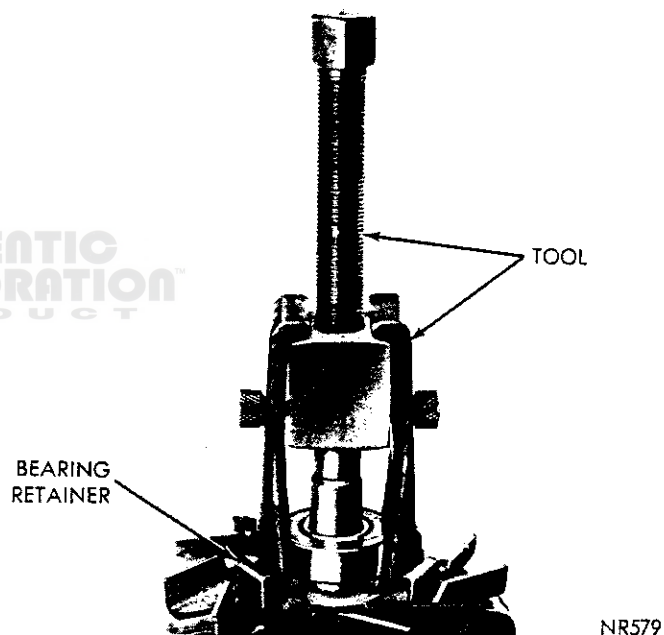

Fig. 19—Removing Bearing from Rotor Shaft
(9) The drive end ball bearing is an interference fit with the rotor shaft. Remove bearing with Puller Tool C-4068, (Fig. 19).
(10) Remove output terminal nuts and washers and remove terminal screw and inside capacitor. The heat sink is also held in place by the terminal screw.